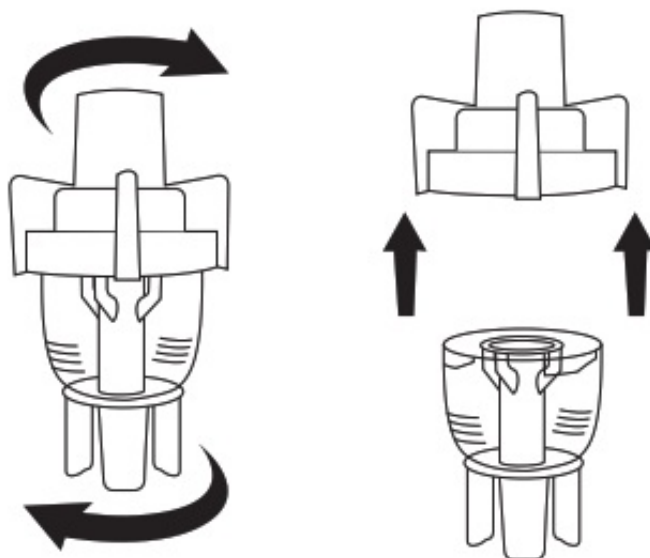

Figure 1
2. Gently twist the top part of the nebulizer assembly counter-clockwise to disassemble the nebulizer. (fig.1)